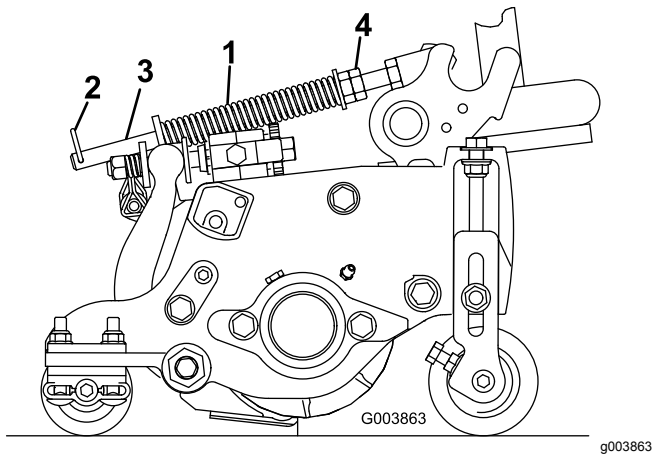

Figure 15
The turf-compensation spring (Figure 15) transfers weight from the front to the rear roller. This helps to reduce a wave pattern in the turf, also known as marcelling or bobbing.
1. Make sure the hairpin cotter is installed in the rear hole in the spring rod (Figure 15).
2. Tighten the hex nuts on the front end of the spring rod until the compressed length of the spring is 12.7 cm (5 inches) on Reelmaster 5410 (5-inch cutting units) or 15.9 cm (6.25 inches) on Reelmaster 5510 (7-inch cutting units); refer to Figure 15.